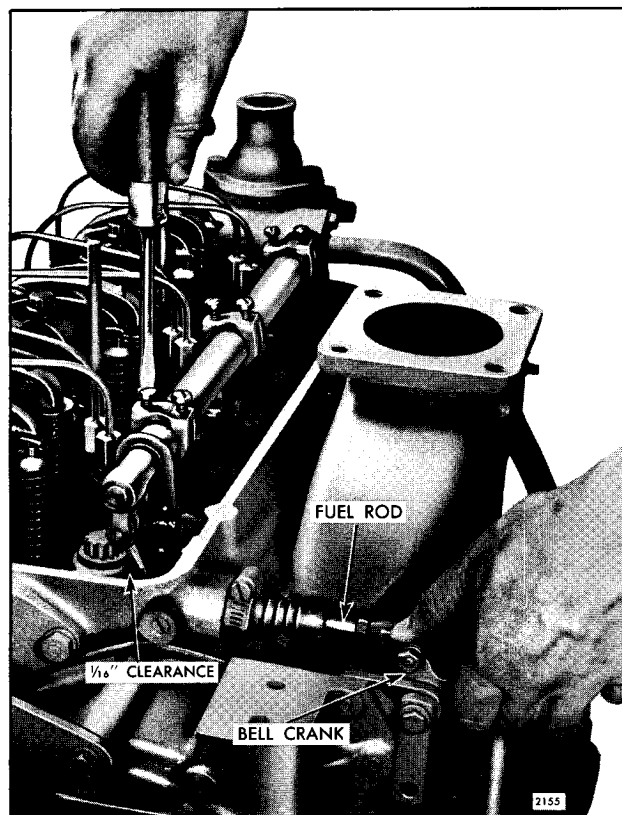

Fig. 2 - Setting Fuel Rod to Cylinder Head Clearance
3. Lift upward on bell crank, as shown in Fig. 2, moving the injector racks into the FULL FUEL position, and turn the inner adjusting screw down until a $1/16''$ clearance exists between the fuel rod and the cylinder head or the cylinder head bolt, whichever it contacts.